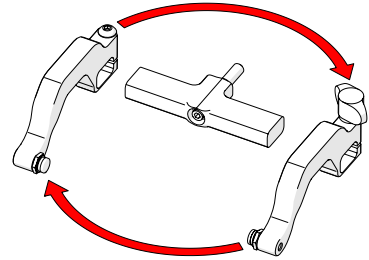

Fig. 45 - Reverse position around yoke
4. Position the removed arms to the opposite sides of the yoke (Fig. 45).